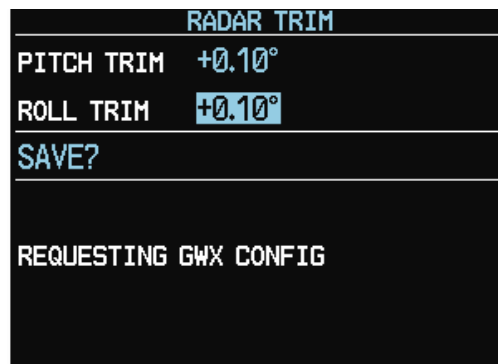

Figure 7-7. Radar Trim Window
2. The Radar Trim window will now appear (see Figure 7-7).